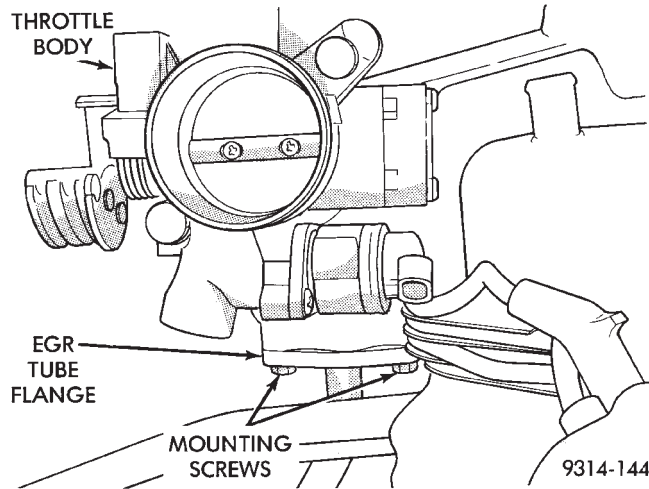

Fig. 10
(1) Remove EGR tube mounting screws at intake manifold plenum (Fig. 10).